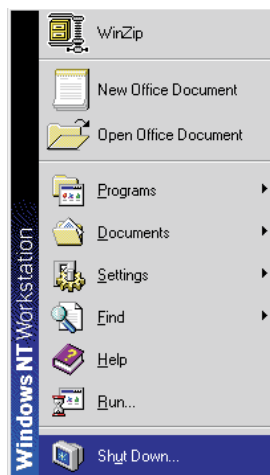

Fig. 2
Step 1 : Click on the Start button (Win95, Win98 or Win NT) and choose " Shut Down...". as shown in Fig. 2.